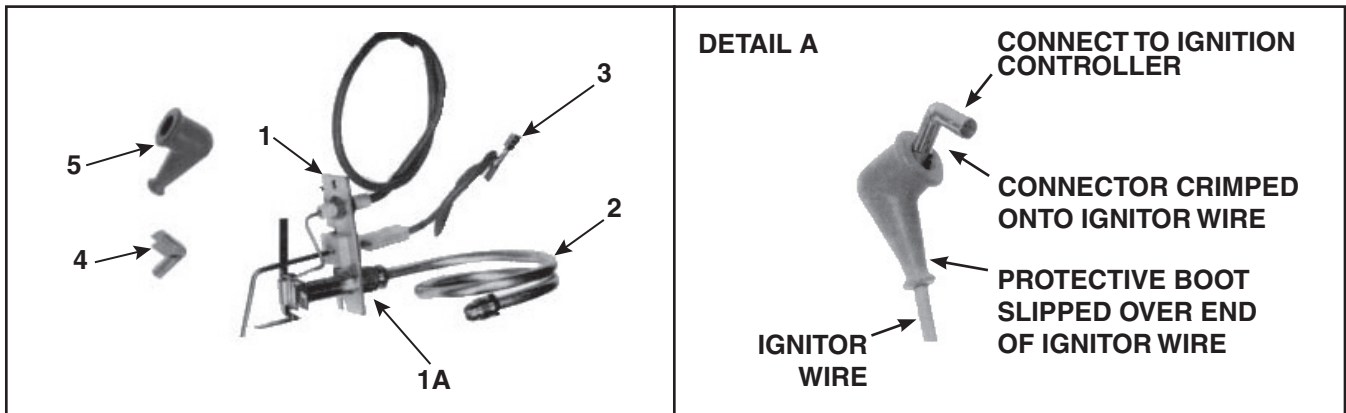

Figure 7. Horizontal Spark Pilot Replacement Kit (Refer to Table 16)
- Horizontal spark pilot kits (see Figure 7) are available for models X, XE, CX, CXE, RX, RXE, CRX, and CRXE manufactured *after* AUG 1973. Installation instructions follow.
Refer to **Figure 7**, DETAIL A to connect the ignitor lead on replacement spark pilots to model G60 and G67 ignition controllers as follows. Item numbers in parentheses refer to **Figure 7** and **Table 16**.